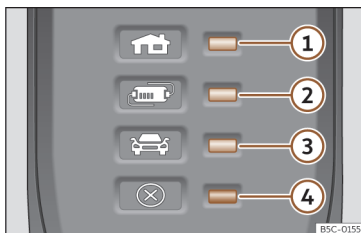

Fig. 64 On the charging cable for power sockets: Control lamps on the protection device.
>>> **Fig. 64:**
The electronic protection device >>> **Fig. 64** ensures that the charging connector does not receive current until it is plugged in to the vehicle's charging connector.
One or more control lamps >>> **Fig. 64** ①, ② or ③ light up green.
Display >>> Fig. 64	Meaning
①, ④ flashing	The housing connector has overheated.
②, ④ flashing	The protection device has overheated.
If the charging process continues with a lower current, both the operating indicator and the warning lamp >>> **Fig. 64** ④ flash red.
- If it disconnects again, or the charging current reduces and the cause does not seem to be exposure to an external heat source, make sure that the green control lamp is flashing >>> **Fig. 64**. Visit a specialised CUPRA dealer or any SEAT network dealer to check the charging cable. Get an establishment that specialises in electrical installations to check the infrastructure connection.
If the red warning light ④ flashes or turns on without one of the control lamps >>> **Fig. 64** ①, ② o ③ also turning on continuously on the status indicator, there is a fault.